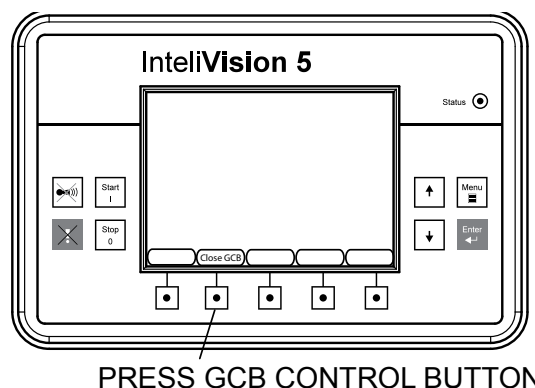

Figure 27. Generator Circuit Breaker (Closed)
- Press the GCB control button on the controller (Figure 27) to close circuit breaker.